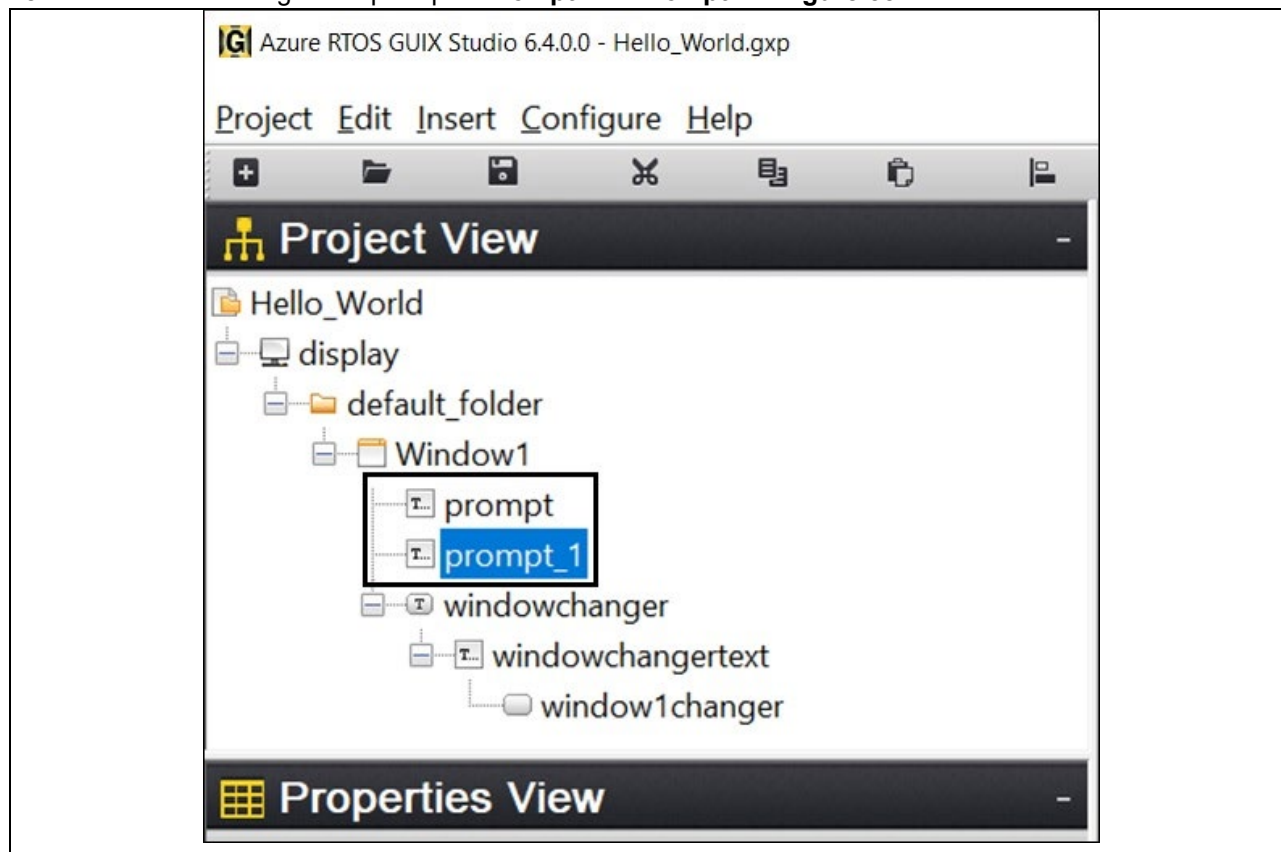

Figure 55. Insert Prompts
18. Insert two times to get two prompts. **Prompt** and **Prompt1** as **figure 55**.